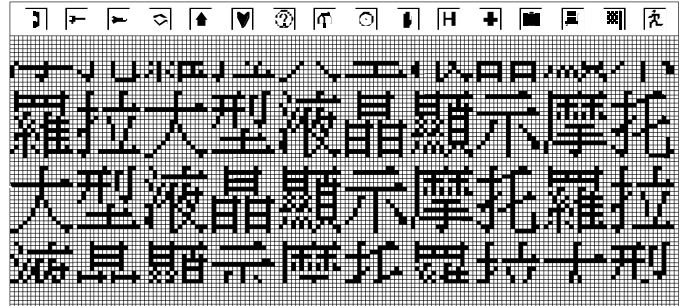

Figure 8h: Centering with display rows location 06h
This command is used to define the first row location of the display, the first row can be started at COM0 to COM63. Example is given in Figure 8h.
- 7) Set display rows location at 06h shown in Figure 8h.